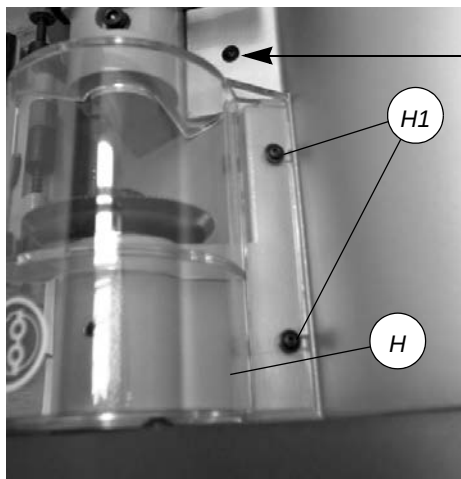

Fig. 40
- 2) Loosen the 2 screws (H1) on the cutter cover (H) and remove (fig.40).
2) Loosen the 2 screws (H1) on the cutter cover (H) and remove (fig. 40, page 29).
3) Loosen the 3 screws (T1) on the central cover (fig.40), raise slightly and remove, tipping a little.
- 7) Replace the central cover and fix with the 3 screws (T1) (fig. 40, page 29).
- 3) Loosen the 2 screws (H1) on the cutter cover (H) and remove (fig. 40, page 29).
- 4) Loosen the 3 screws (T1) on the central cover, raise slightly and remove, tipping a little (fig. 40, page 29).
- 19) Replace the central cover and fix with the 3 screws (T1) (fig. 40, page 29).
- 20) Replace the cutter cover and fix with the 2 screws (H1) (fig.40).